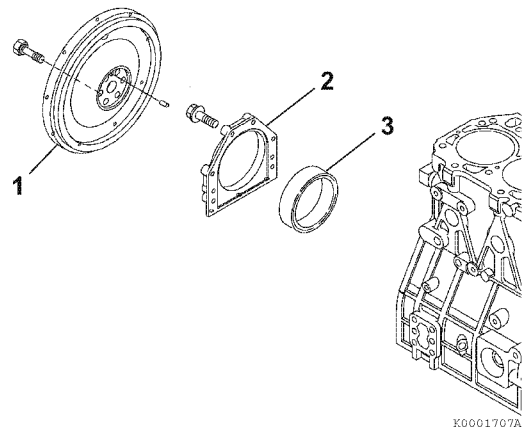

Figure 6-89
7. Apply ThreeBond Liquid Gasket No. 1207F, YANMAR Part No. 977770-1207F to the mounting flange of the seal housing (2, **Figure 6-89**).
10. Reinstall the flywheel (1, **Figure 6-89**) and tighten the bolts to the specified torque. *See Special Torque Chart on page 6-10 for specifications.*